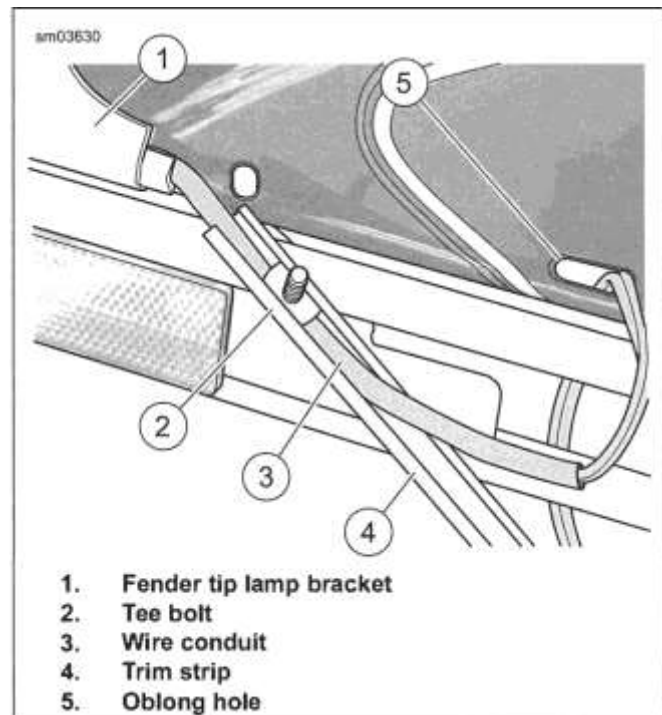

Figure 8-60. Install Conduit in Trim Strip
2. See Figure 8-60. Route harness through trim strip behind tee bolt, and through oblong hole (5).